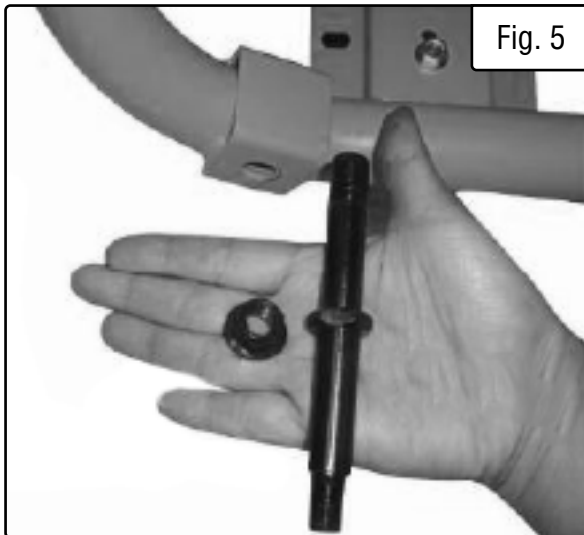
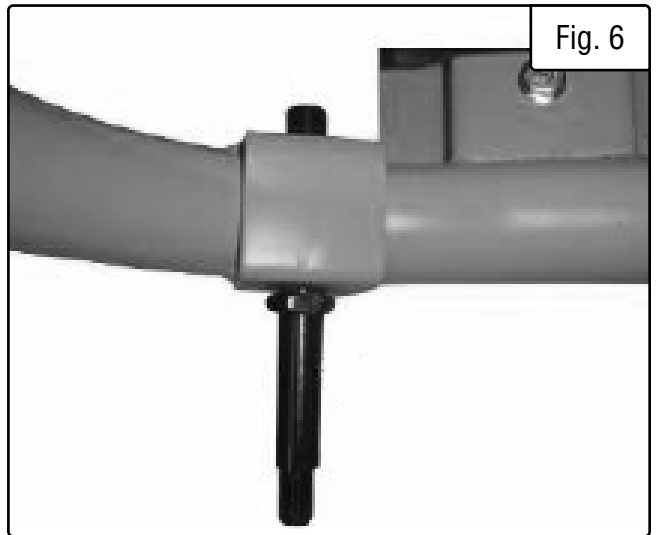

Fig. 5
Fig. 6
2. Take one wheel shaft, and one M12 nut as shown (Fig. 5). Slide the wheel shaft, with the threaded part facing inward, through the frame. Secure using an M12 nut and the included wrench as shown (Fig. 6).